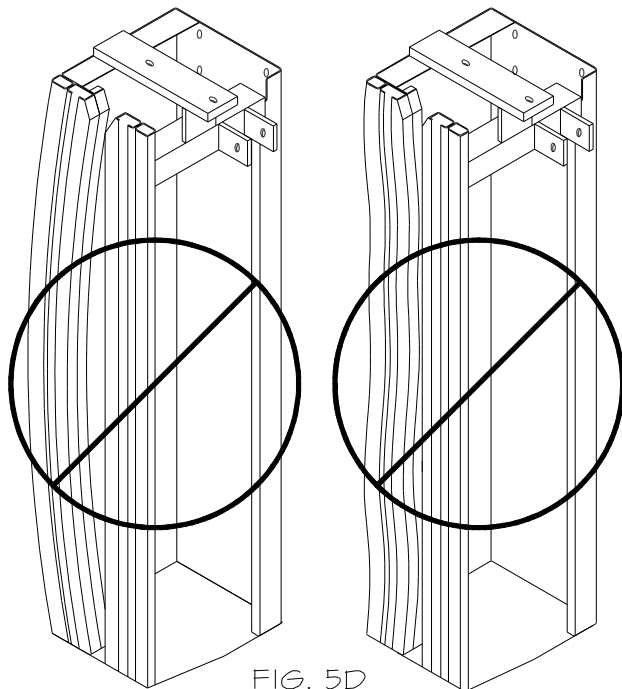

FIG. 5D
- Shim Uprights as needed so Uprights will not twist or warp when attached to wall (Figure 5d).